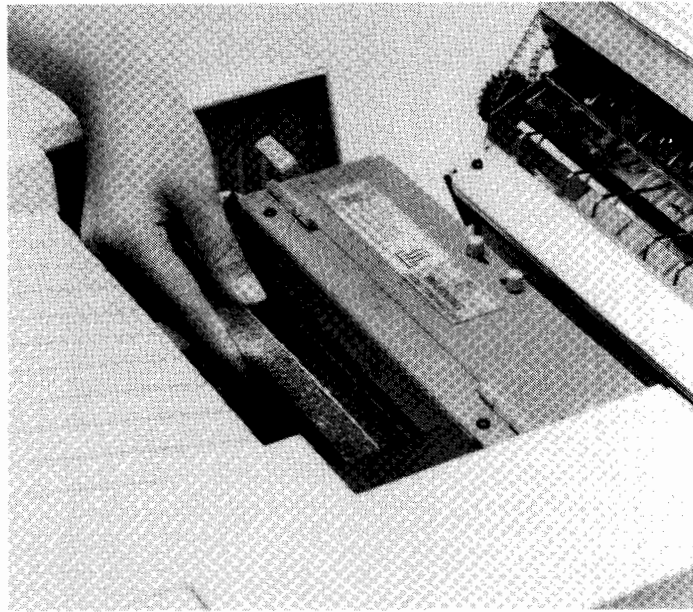

Figure 4-11. Opening Upper Cover
- c. Open the upper cover (figure 4-11).